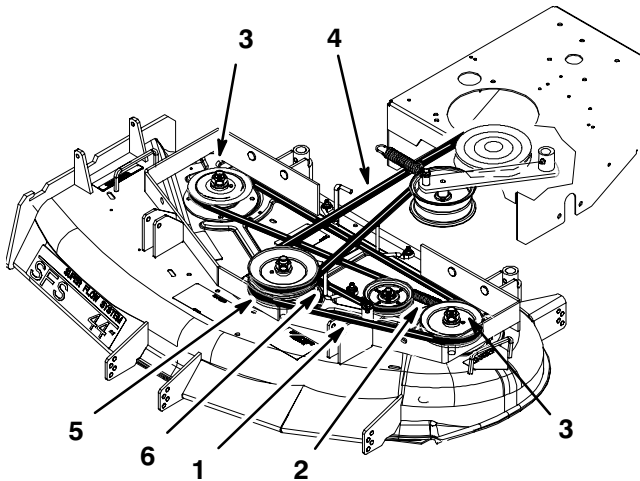

Figure 62
6. Install the new deck belt around the two outside spindle pulleys, the idler pulley, and in the lower groove of the center spindle pulley (Fig. 62).
7. Connect the idler arm spring (Fig. 62).
9. Adjust deck belt guide an 1/8 in. from belt (Fig. 62).
5. Disconnect the idler arm spring to relieve tension on the idler arm and idler pulley, then remove the worn deck belt (Fig. 62).